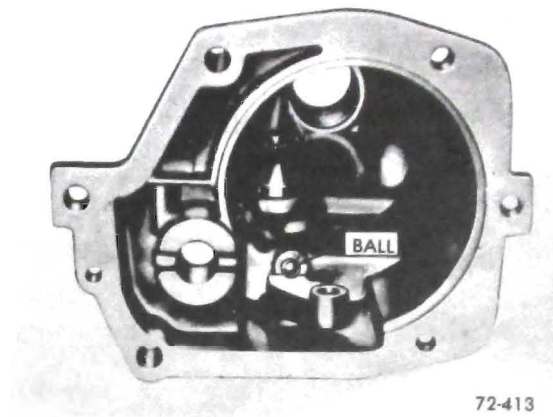

Figure 72-50 - Installing Reverse Shifter Shaft
5. Place detent ball on spring, while holding ball down with a suitable tool, push the shift shaft into place and turn until the ball drops into place in detent on shaft detent plate. See Figure 72-50.